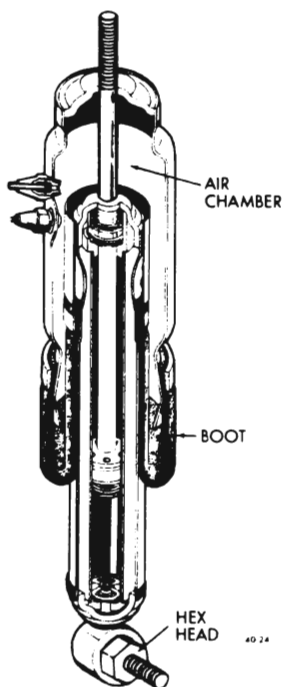

Figure 40-30 - Superlift Shock Absorber - Sectional View
e. The Superlift shock absorber is essentially a conventional hydraulic unit with a pliable nylon reinforced neoprene boot acting as an air chamber. See Figure 40-30.